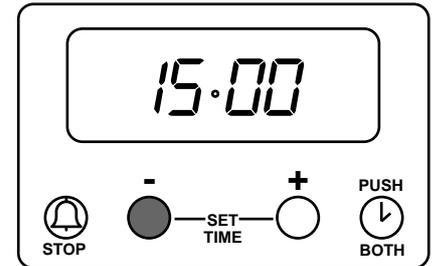

Fig. 6.9
To stop the sound press button (1). The display will stop flashing and show the time of day, e.g. 15.00. The cookpot symbol (u) will go out. See Fig. 6.9. If using the oven it will come on again once button (1) has been depressed. When cooking is complete remove food and turn OFF oven temperature control.